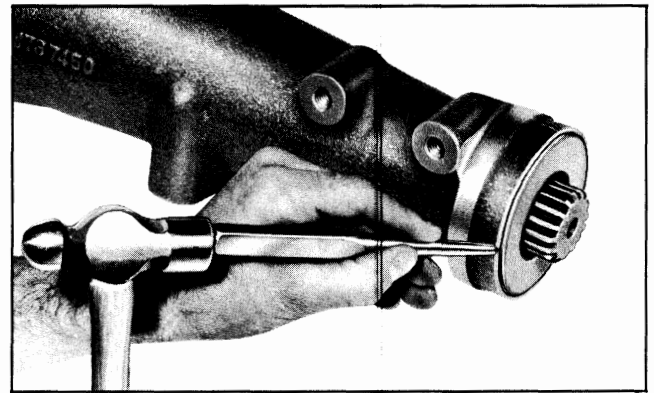

Fig. 7-26 Removing Extension Oil Seal
1. Using punch or other suitable tool (Fig. 7-26), loosen oil seal from rear extension and remove.